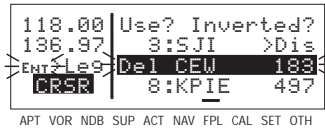

Figure 4-114
- Press **CLR**. The letters **Del** (delete) will appear to the left of the identifier and a question mark will appear to the right of the identifier (figure 4-114). If a mistake was made and you do not wish to delete this waypoint, press **CLR**.